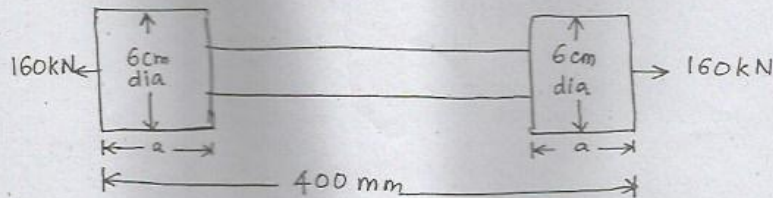

fig.Q.11(a)
11. (a) The bar shown in fig.Q.11(a) is subjected to a tensile load of 160 kN. If the stress in middle portion is limited to 150 N/mm^2 , determine the diameter of the middle portion. Find also the length of the middle portion if the total elongation of the bar is to be 0.2 mm. Young's modulus is $2.1 \times 10^5 \text{ N/mm}^2$.